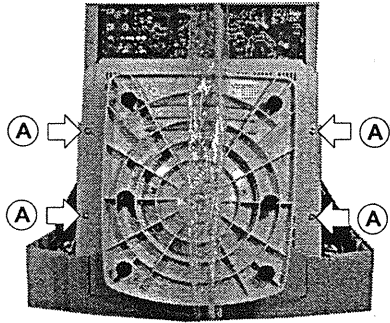

Figure 2-6 Remove the Main Board
4. Remove the four screws from the bottom. Refer to the figure 2-6 (A).